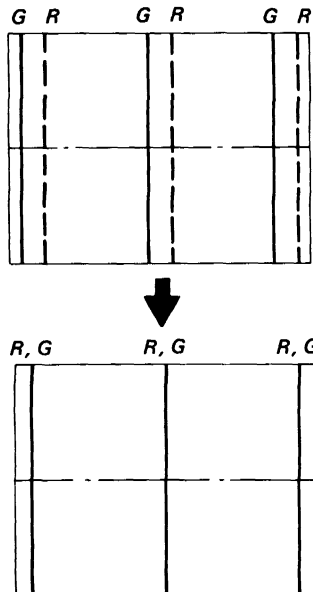

Fig. 3-57
- (8) Adjust RV5502 (H CENT (R)) to converge the red vertical lines and the green vertical lines in the middle of screen as shown in Fig. 3-57.